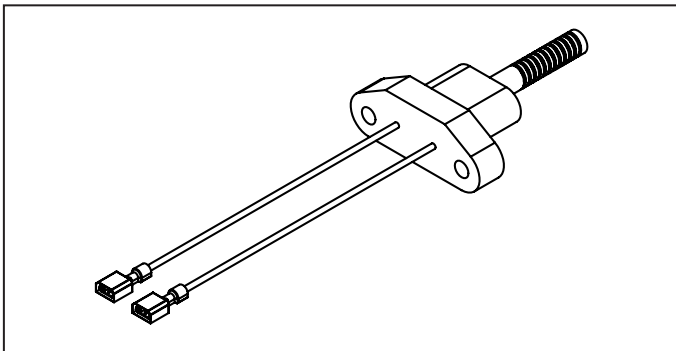
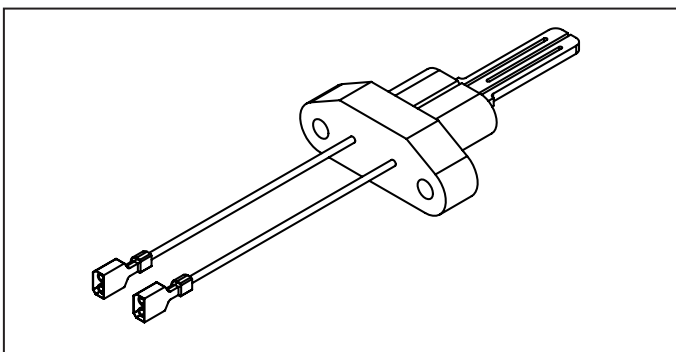

Figure 28. Spiral Igniter
Figure 29. Flat Surface Igniter
4. **Igniter** - The hot surface igniter is a crystalline element which becomes very hot when electrical power is applied to it. The hot surface igniter directly ignites the air/gas mixture in the combustion chamber. LRZE heaters from Revision J forward use a spiral igniter (see Figure 28). Previous versions use a flat surface igniter (see Figure 29).